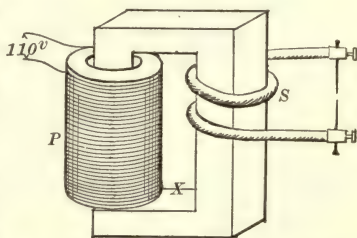

FIG. 323. — Step-down transformer, used for welding.
To illustrate this, we may wind a turn or two of very large copper wire around the core of a small step-down transformer (Fig. 323), and connect its primary to a 110 volt A.C. circuit (if one is available). The ends of the large wire should be attached to a couple of iron nails. If, when the current is on, the tips of the nails are brought together, they get red hot and can be welded.
5. What generates the heat required to weld the nails in the experiment shown in figure 323? Why does not the copper wire *S* melt as well as the tips of the nails?